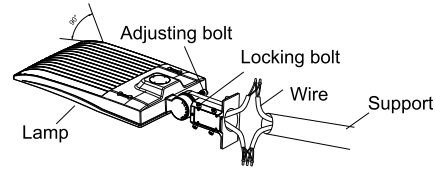

Figure 18
Step 2: Loosen the four bolts on A&D bracket, connect the wires correctly, and pull the wires into the poles.(Figure 18)
Step 3: Place the bracket into the pole and lock the four bolts. (Figure 18)
Notice: Adjustable angle is 0-90°(Figure 18)